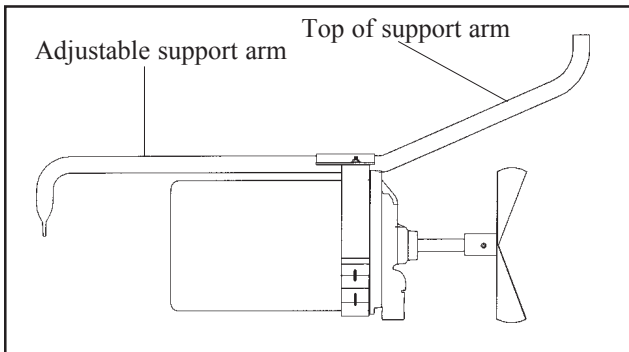

Figure 19
B. Installing adjustable support arm. - see Figure 19
1. Attach the adjustable support arm to the mounting ring using (2) 1/4" flange nuts. Torque the bolts to 10-12 ft-lbs.